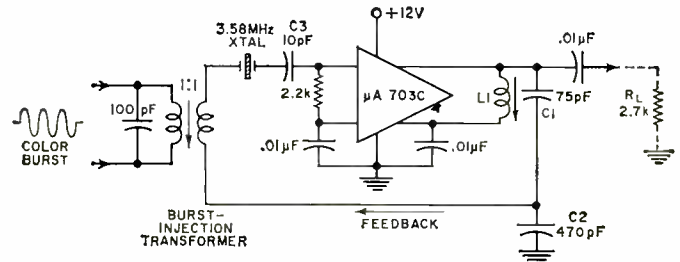

Fig. 5. Color-TV injection-locked reference oscillator.
Instruments of this level of precision are most appropriately referred to the National Bureau of Standards' station WWVB on 60 kHz. This is the U.S. Frequency Standard, which itself is now referred to A₁ time. It may take several hours to accumulate records from which comparisons of a precision of parts in 10^9 or 10^{10} may be confidently derived. This is most easily accomplished by phase-tracking equipment, which automatically makes a continuous strip-chart recording of the comparison (Fig. 5).
Fig. 5. Automatic phase-tracking 60-kHz receiver makes continuous strip-chart recording which compares reception of NBS station WWVB with a local oscillator. Comparisons are easily reliable beyond parts in 10^9 at almost any reception point throughout the U.S. Tracking, if carried on daily and averaged over several days, are capable of making comparisons within parts in 10^{11} accuracies.
Fig. 5 shows the $\mu A703C$ integrated circuit and associated components for an injection-locked crystal oscillator. The positive feedback voltage to start and sustain oscillations is taken from a capacitive tap in the tuned circuit at the collector of transistor Q_B . This voltage is fed back through a narrow-bandpass crystal filter network to the base of transistor Q_1 . The common-collector transistor, Q_1 , drives the common-base transistor, Q_B , to complete the regenerative feedback path required for oscillation.
Fig. 5. (A) Transistor phase-splitter circuit. (B) Series-output circuit operated from single d.c. power supply. (C) Series-output circuit operated from opposite-polarity supply.